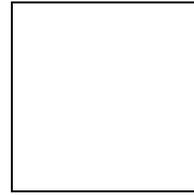

Figure 26
5. **Reversing Switch:** Located on the back of the machine, the reversing switch (Figure 26) can be used to change the spindle rotation. This feature is useful when turning on the outboard side of the lathe. It allows the user to work a piece in his/her familiar method. **Note: Allow the motor to come to a complete stop before reversing direction or damage may occur.**